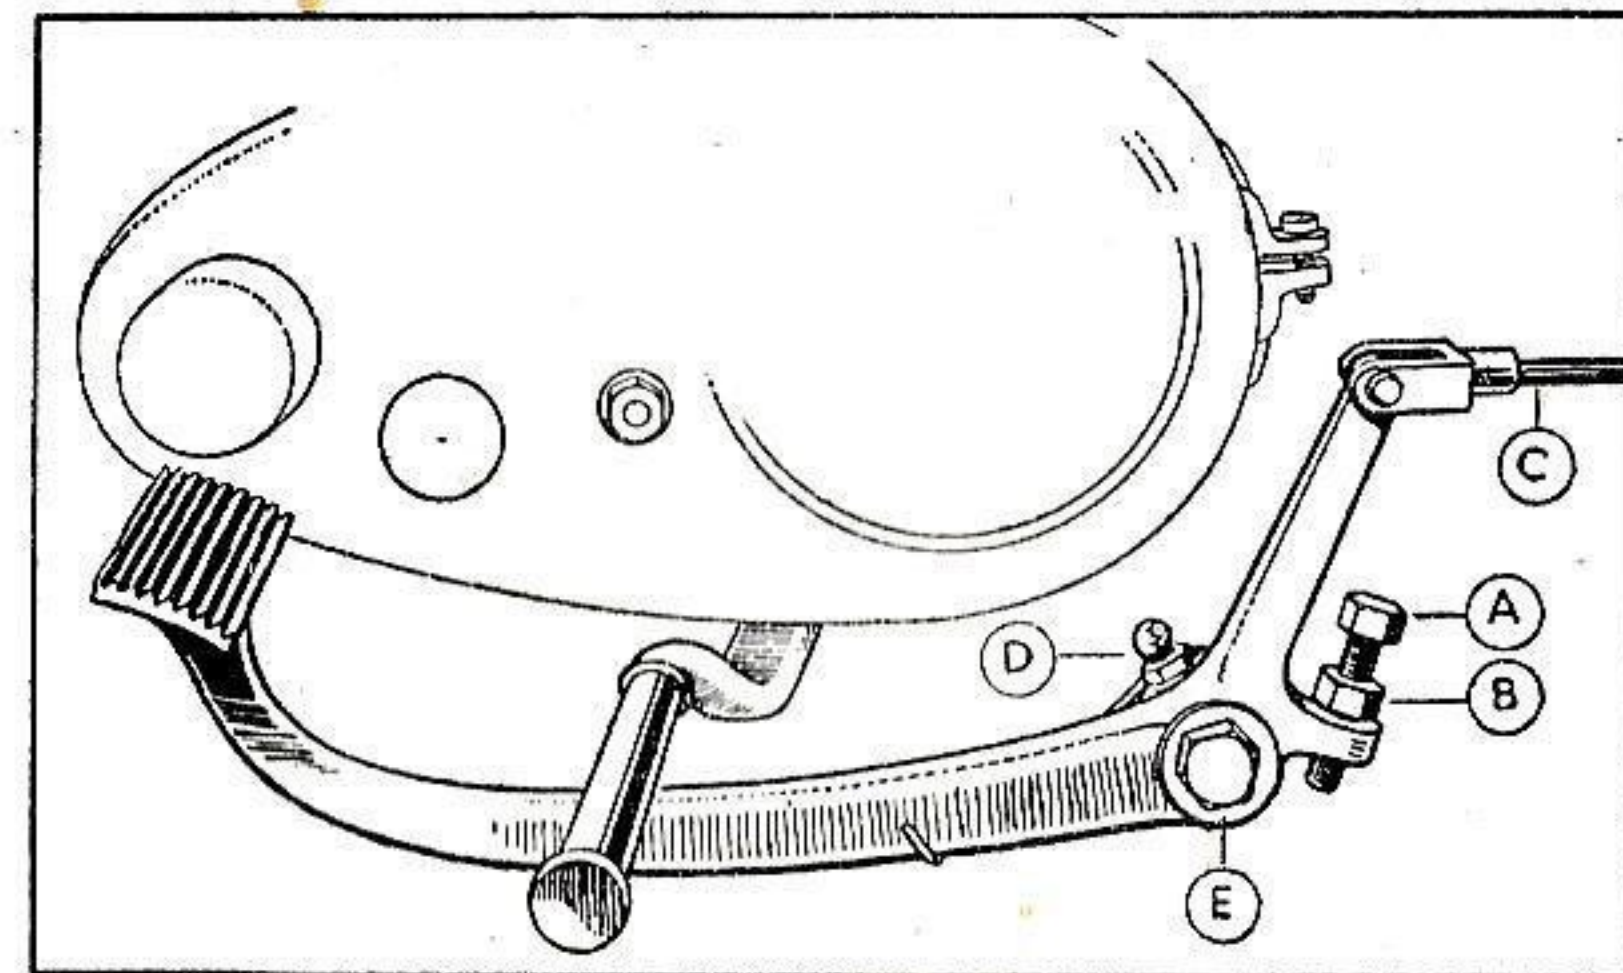

FIG. 76. ADJUSTMENT FOR BRAKE PEDAL POSITION
Adjusting Brake Pedal. Some riders attach considerable importance to the exact position of the rear brake pedal. On the A.J.S. it is possible to alter its position within narrow limits. As may be seen in Fig. 76, an adjuster bolt (A) is screwed into the heel of the pedal and secured by a lock-nut (B).
Shoe Adjustment (Front and Rear Brakes). Minor brake adjustment to compensate for slight wear of the shoe linings is normally effected for the front and rear brakes by means of the finger-operated adjusters, as described in previous paragraphs. However, after covering a considerable mileage on the road and effecting such minor adjustments as are necessary, it will eventually be found that the effective leverage of the expander operating lever is much reduced (see Figs. 76 and 77), and further minor adjustment becomes wholly ineffective or impossible. To remedy loss in braking efficiency, incurable by making a minor adjustment, proceed to effect a major adjustment by means of the